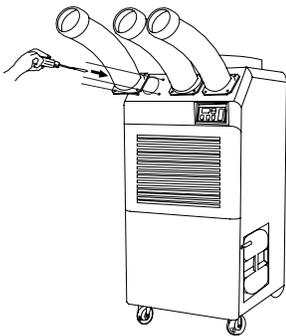

Figure 3
3. Use screws (enclosed inside of box with cool air outlet hose(s)) to install the cool air outlet hose(s) on the air conditioner as shown in Figure 3.